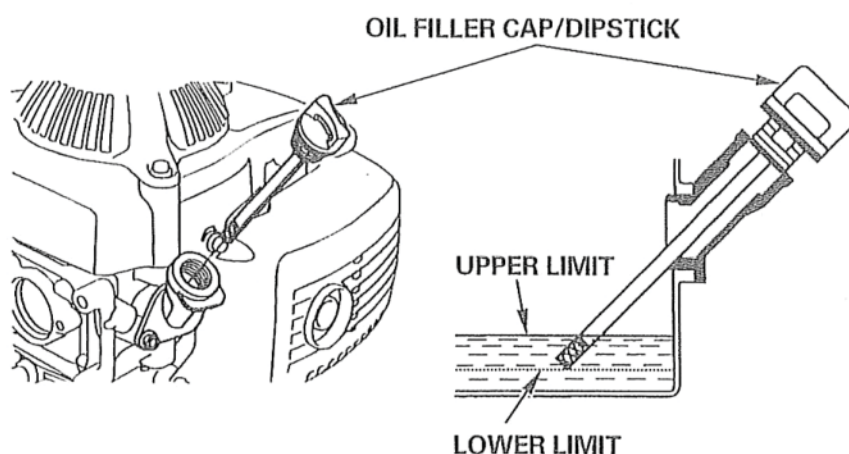

Figure 5
Before each use, ensure that the oil level is between the *Lower* and *Upper limit* marks on the dipstick. (Fig.5) **Do not screw in the dipstick to check the oil.**
6. Insert the dipstick into the filler neck BUT DO NOT SCREW IT IN. Then remove the dipstick and read the oil level. (Fig. 5)